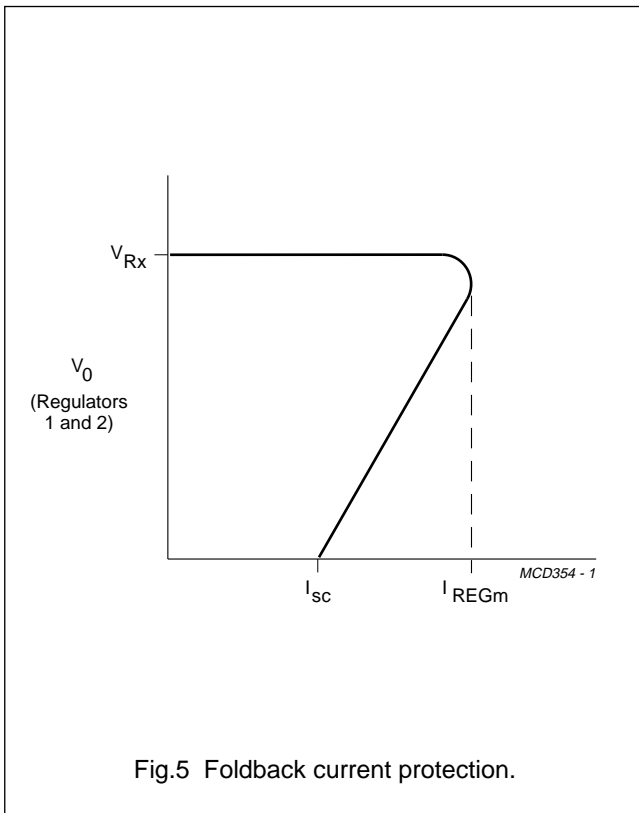

Fig.5 Foldback current protection.
4. The foldback current protection limits the dissipated power at short-circuit (see Fig.5).
6. At current limit, I_{REGm} is held constant (behaviour in accordance with the broken line in Fig.5).